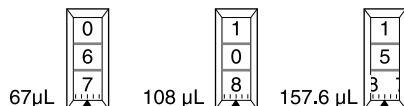

Figure 4: Example volumes
4. Turn the volume lock to the “lock” position (Fig. 2 above) to prevent changes to the volume setting. Some volumes for the 200  $\mu$ L model are shown in Figure 4.